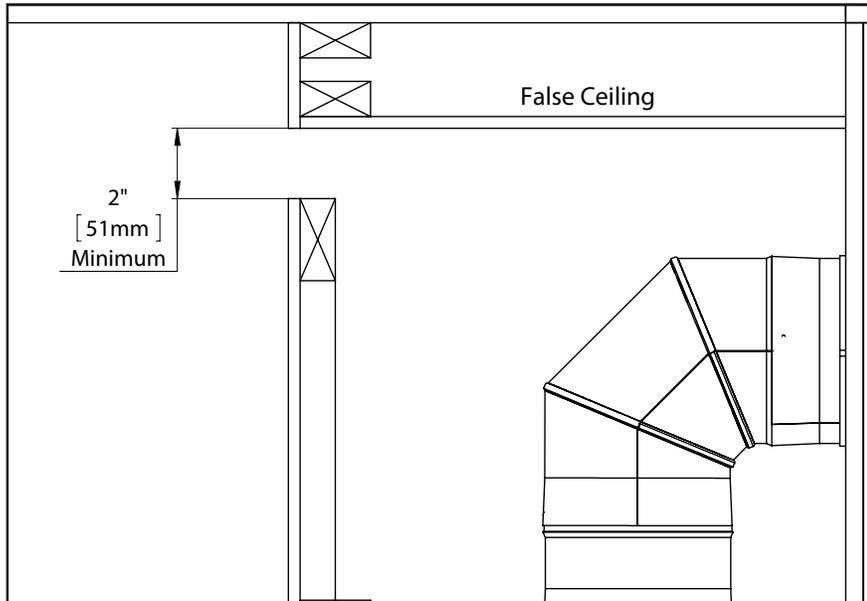

Figure 3: False Ceiling
**Optional: False Ceiling** - If your ceiling dimension is greater than the minimum required height you may want the CSS discharge lower on the wall. To do this a false ceiling is required to properly evacuate the heat from the chase (figure 3).